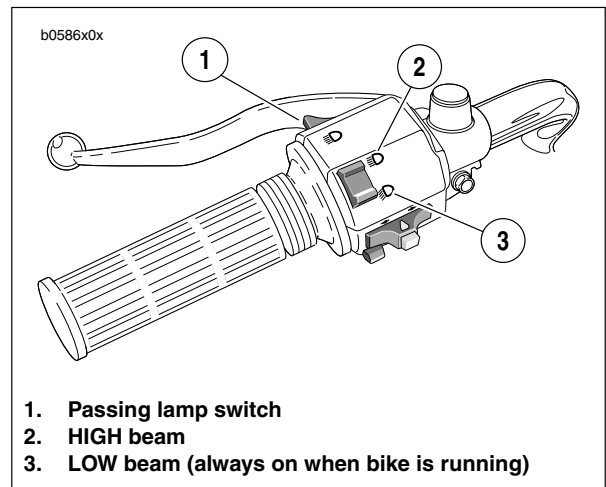

Figure 7-49. Headlight Controls
- b. See Figure 7-49. Check headlight LOW (3) and HIGH beam (2) settings.
- c. Set headlight to LOW beam. Press passing lamp switch (1). Headlight should flash HIGH beam for as long as the switch is pressed.